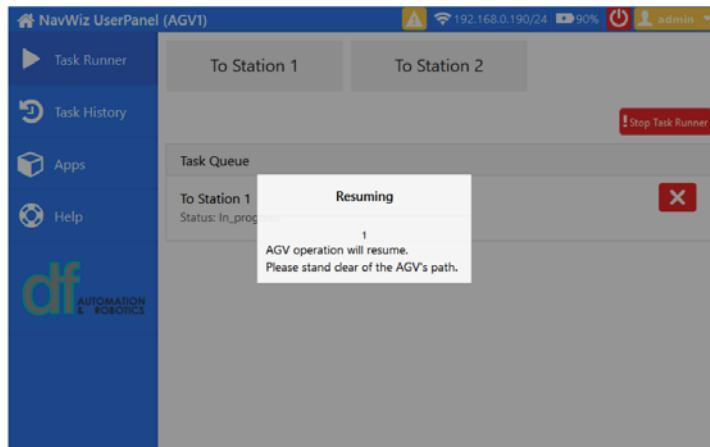

Fig. 3.25: Resuming Message
- iii. A **Resuming** a message as shown in Fig. 3.25 will be shown on the **LCD Touchscreen**.